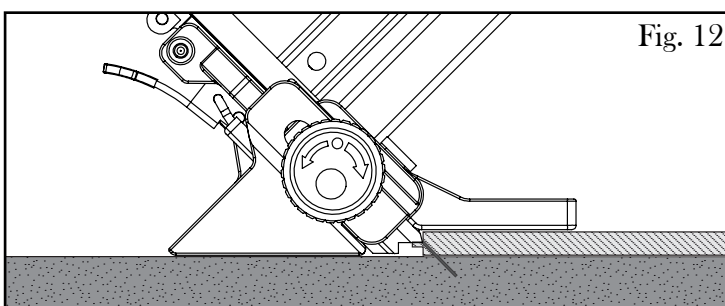

Fig. 12
5. Pull the trigger so that the fastener is fired at an angle through the hardwood and into the ground (Fig. 12).